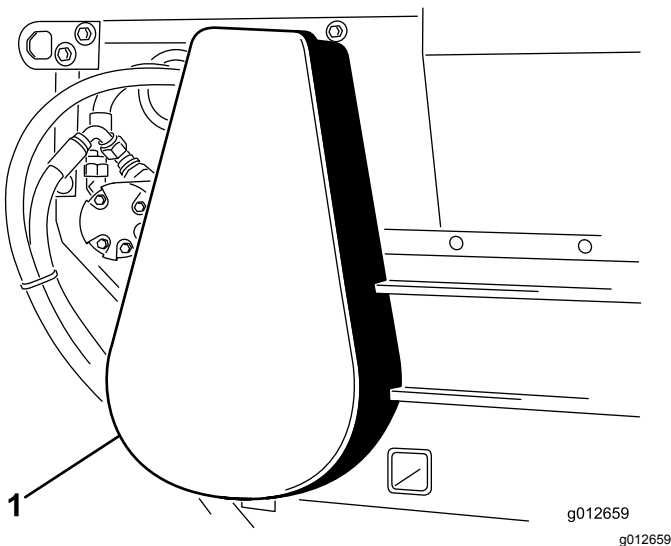

Figure 17
2. Remove the chain cover (Figure 17).